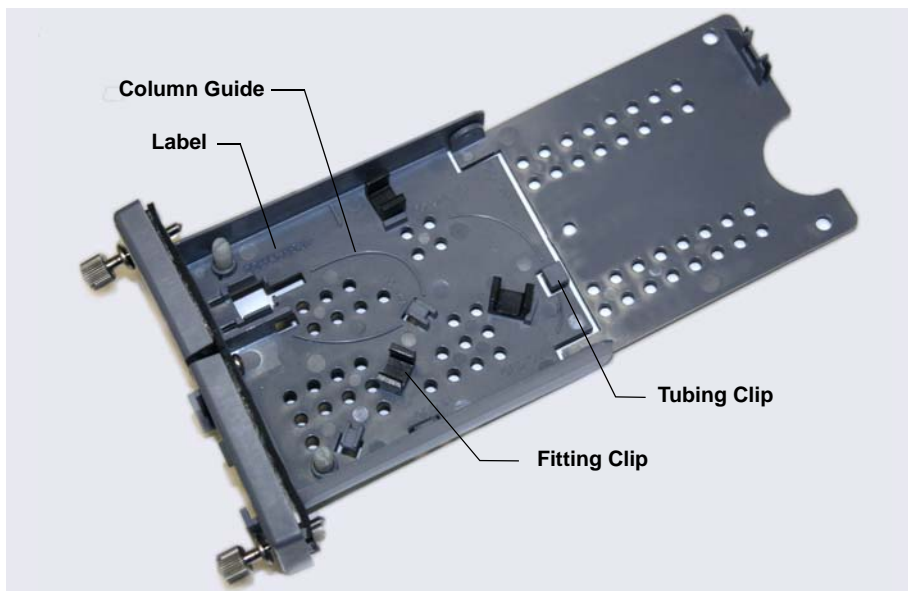

Figure 4-10. Empty Capillary Column Tray
3. Raise the lid of the column tray to open it. Note the fitting and tubing clips on the base of the tray (see Figure 4-10). To indicate the placement of columns in the tray, labels and tubing guides are molded into the tray.